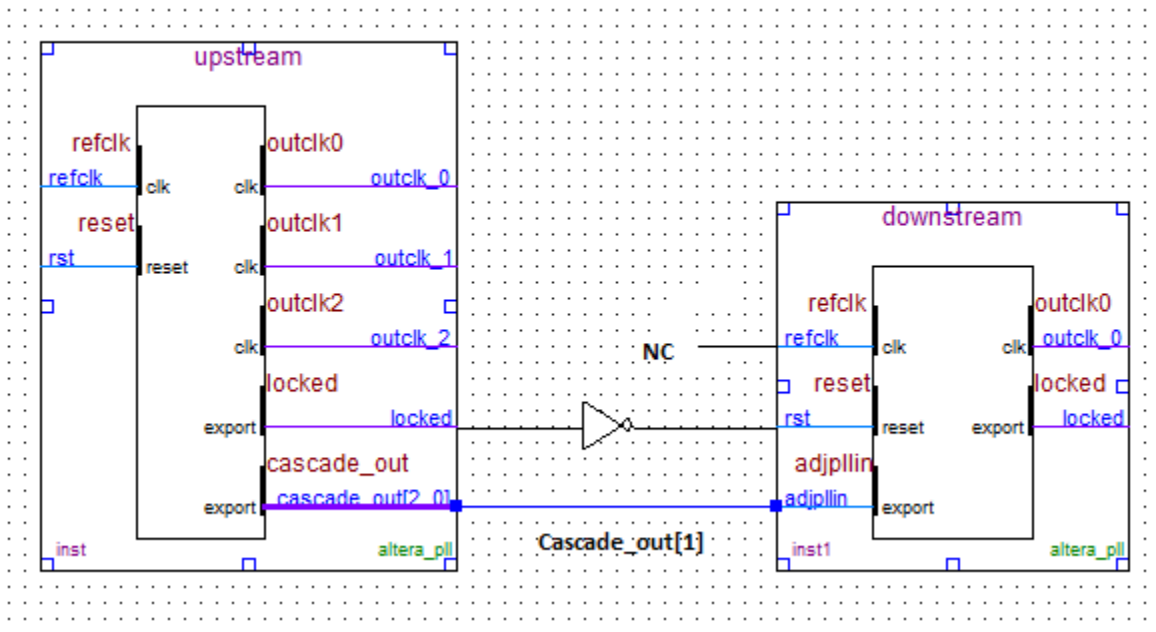

Figure 3-1: Cascade fPLL Implementation
- To ensure the Downstream fPLL is reset and synchronized properly; Altera recommends using the Upstream “locked” output port to connect to the downstream fPLL reset port as shown in figure 3-1.
- The Upstream cascade_out is a bus that bundles all of the output clocks. The Downstream PLL needs to be connected to one of these output clocks at the adjpll or cclk input port. Below figure 3-1 shows the Cascade fPLL design implementation.